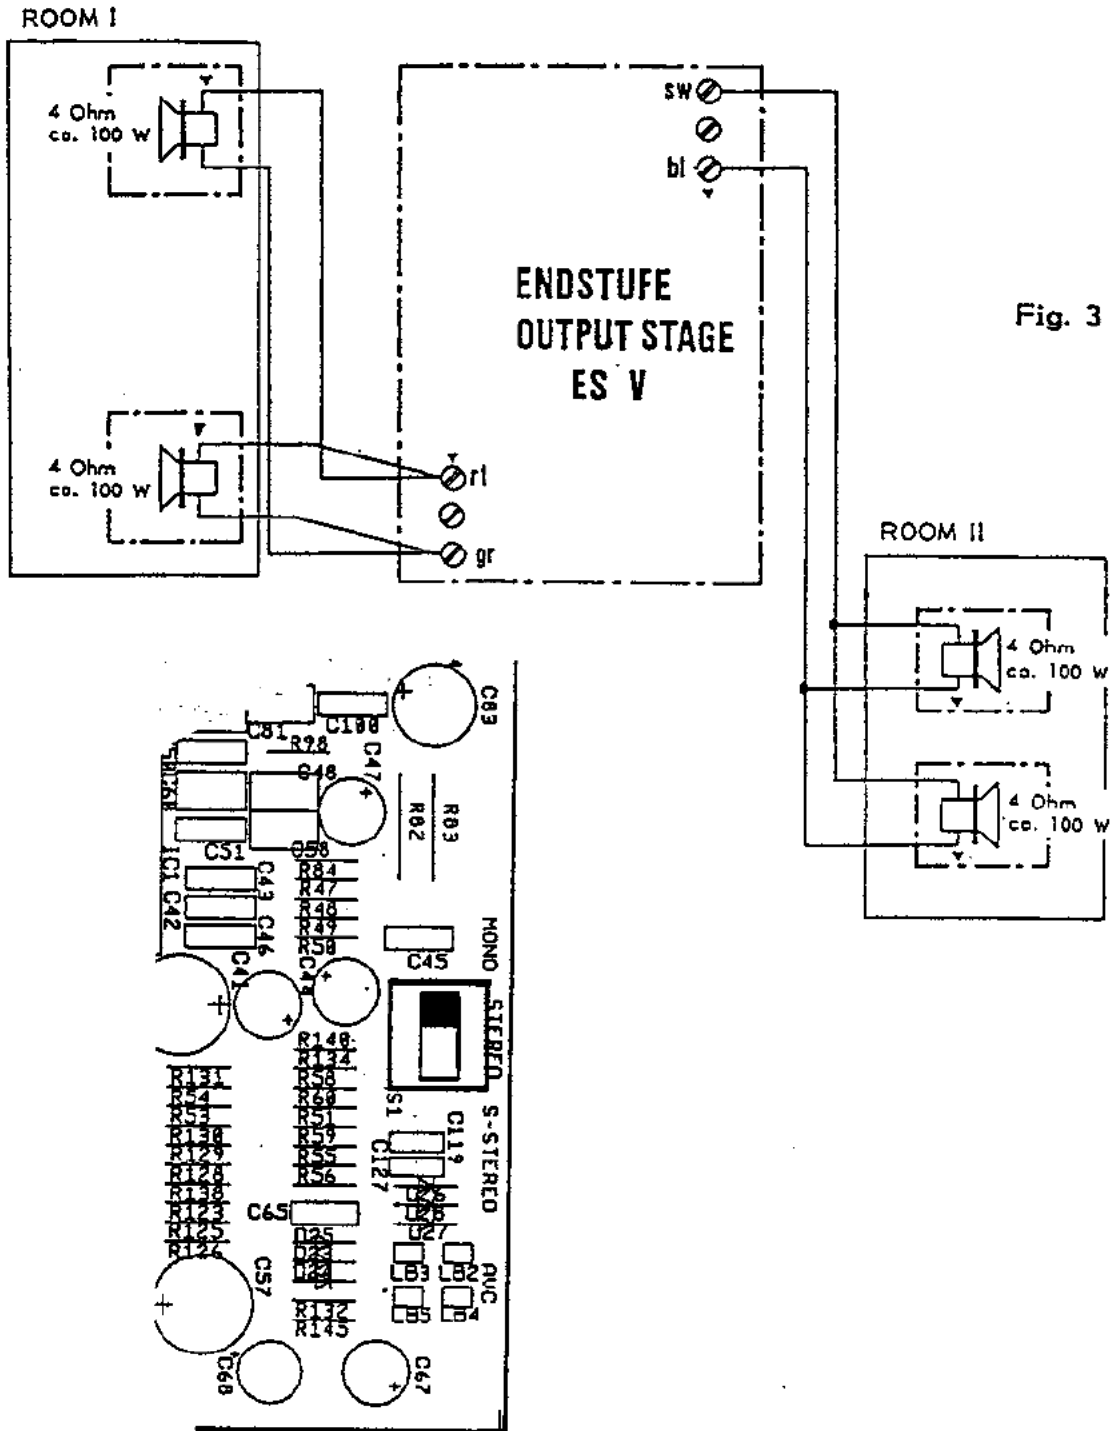

Fig. 3
**Mono mode; sound system for separate rooms; see Fig. 3.**